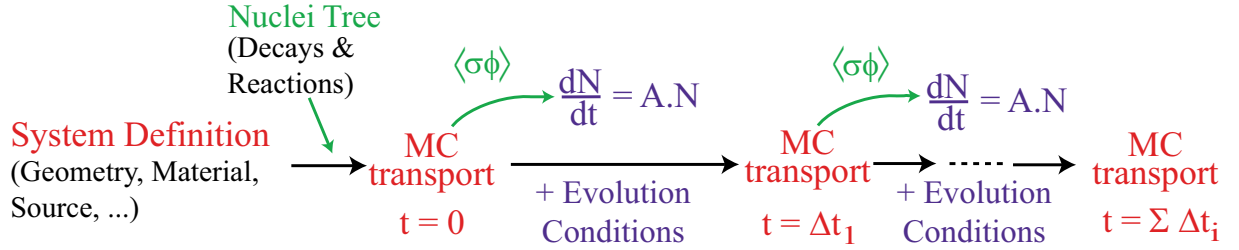

Figure 1.1: Principle of fuel evolution in MURE.
- Part 3 simulates the evolution of the fuel within a given reactor over a time period of up to several years, by successive steps of Serpent/MCNP calculation and numerical integration of Bateman’s equations. Each time the MC code is called, the reactor fuel composition will change due to the fission/capture/decay process occurring inside. Changes in geometry, temperature, external feeding or extraction during the evolution can also be taken into account. Obviously this part is not independent of the 2 others⁴ (see figure 1.1).